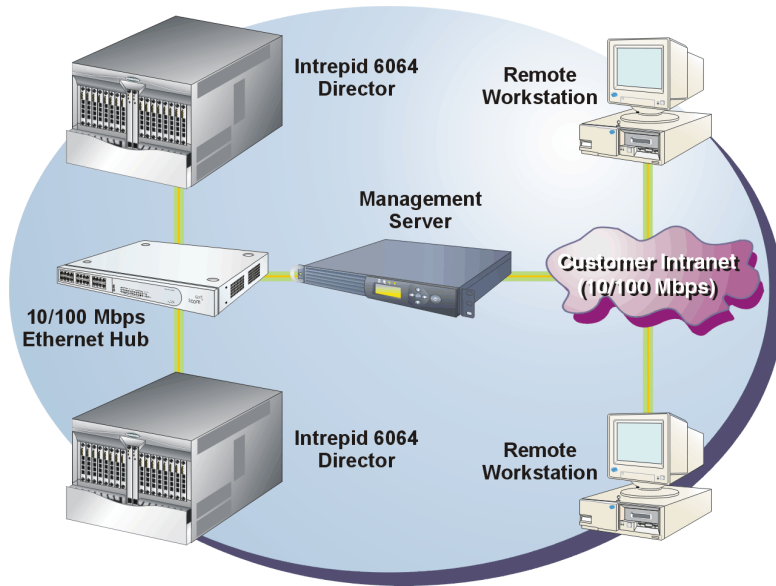

Figure 5-3 Typical Network Configuration (Two Ethernet Connections)
- Part of a second management server interface that connects to a customer intranet and allows operation of the Element Manager application from remote user PCs or workstations. The customer intranet can be a ten or 100 Mbps LAN segment. Connection to this LAN segment is optional and depends on customer requirements. This type of network configuration using both Ethernet connections is shown in Figure 5-3. Intrepid 6064 Directors are used as an example.